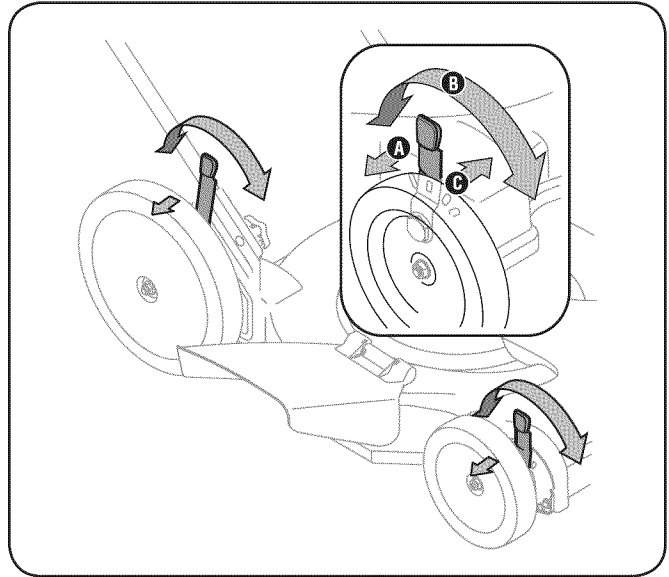

Figure 3-8
- b. Slide lever to desired position for a change in cutting height. See Fig. 3-8.